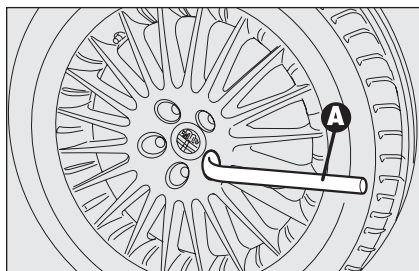

fig. 5a
- Loosen the bolts of the wheel to be replaced by about one turn with the wrench provided **A**-**fig. 5a**; shake the car to facilitate rim removal from the wheel hub;